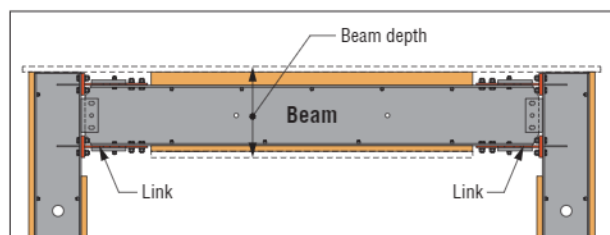

Figure 1 — Beam Depth at Roof Level
3. Beam depth includes beam top and bottom nailers as well as 2x field-installed top plate and bottom plate at the upper frame level (see Figure 1). For multi-story frames, mid-level beam depths include the preinstalled beam top and bottom nailers and bottom field-installed 2x plate, but no 2x field-installed top plate (see item 4 below).